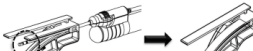

Figure 2
- Confirm that the width of the two black bands on the cannula extends past the end of the bending tap prior to bending (**Figure 2**). If this band does not extend past the end of the tab, the handpiece may not function properly after being bent.
- NOTE:** The cannula tip for the 15ga, 10cm and 13ga, 10cm handpieces will not extend past the bending tab as illustrated in **Figure 2**. For these handpieces, simply fully insert them (until they cannot be inserted any further) into the bending tool prior to bending.